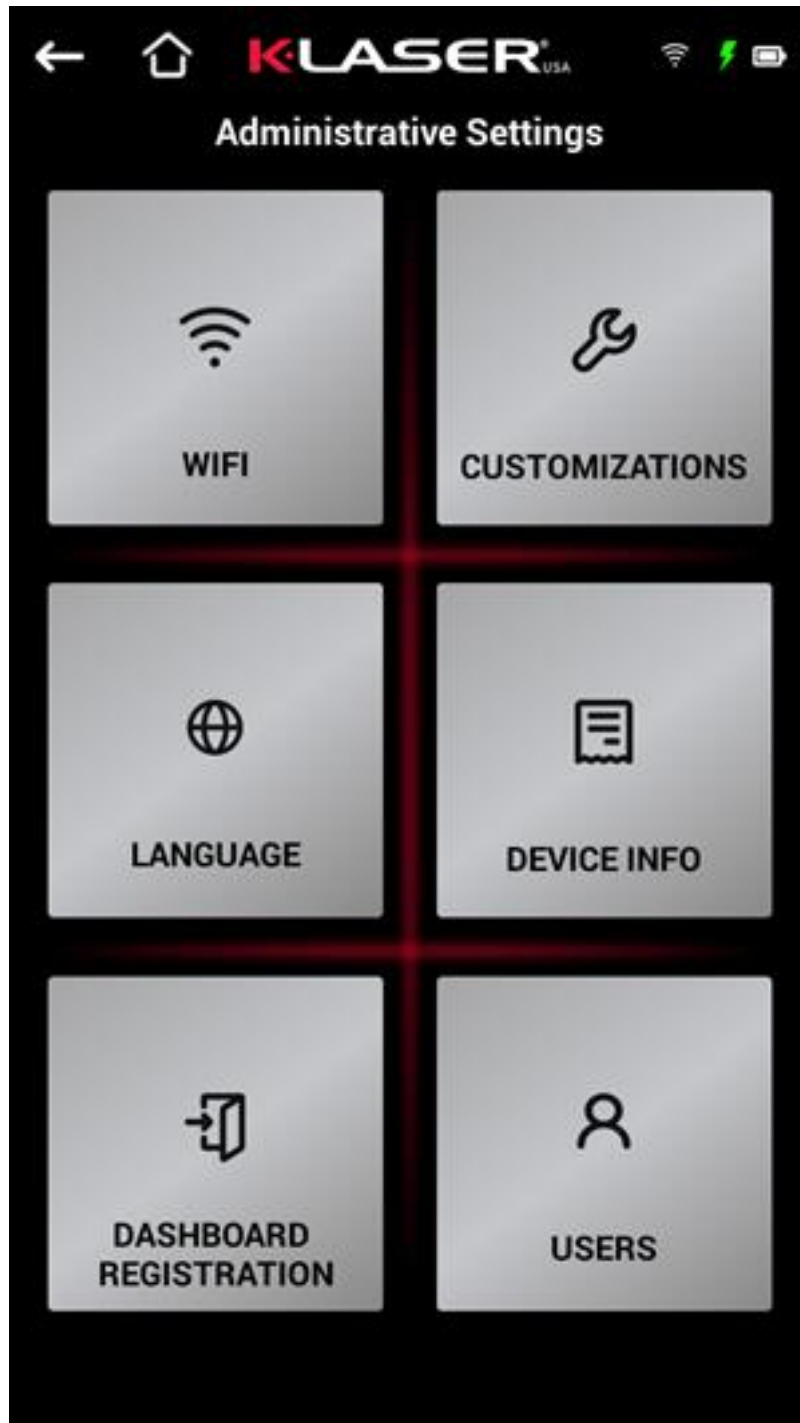

Figure 9: Administrative Settings interface
- 1) Click “ADMINISTRATIVE SETTINGS” in the interface of Figure 1 to enter the administrative setting interface, see Figure 9.